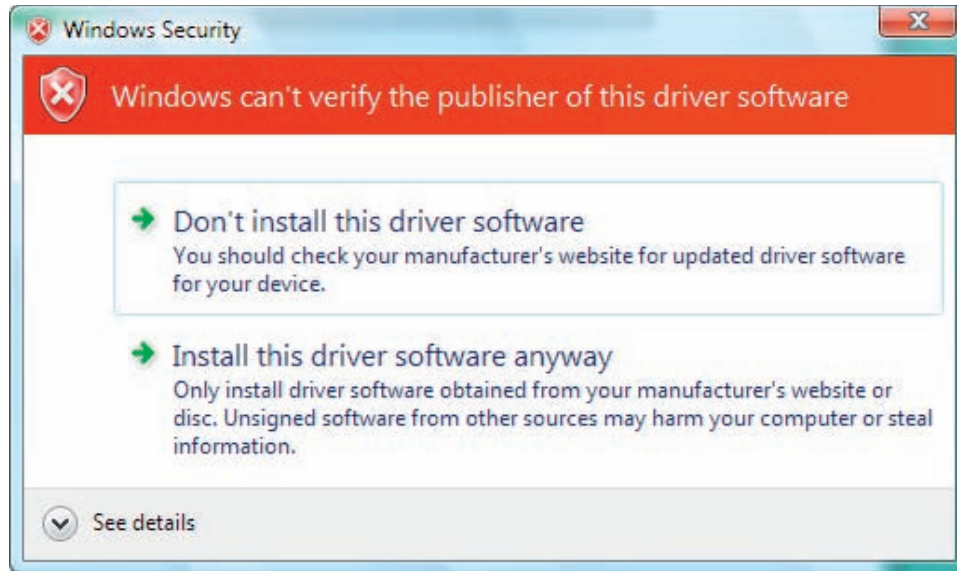

Figure 9-84 Windows warns drivers are not Microsoft certified
6. During either the Windows installation or the manufacturer installation, if Windows detects the device drivers have not been certified by Microsoft, the warning message in Figure 9-84 appears. To continue the installation, click **Install the driver software anyway**.